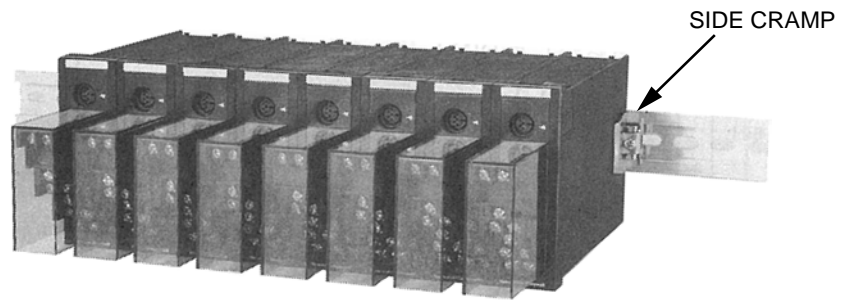

Fig.4-6.
- (2) After installing the modules, fix the side clamps supporting the right or left ends of the outermost modules as shown in Fig.4-6.